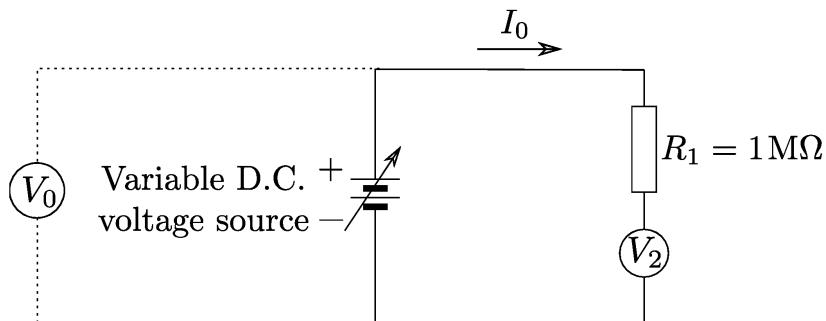

Figure 6: Circuit to determine the resistance of a voltmeter using the concept of a voltage divider.
- Connect the circuit shown in Figure 6 with $V_0 \approx 10 \text{ V}$. Note that a voltmeter is not normally connected in series with a resistor as it is here, but our aim is to determine the resistance R_2 of the voltmeter.